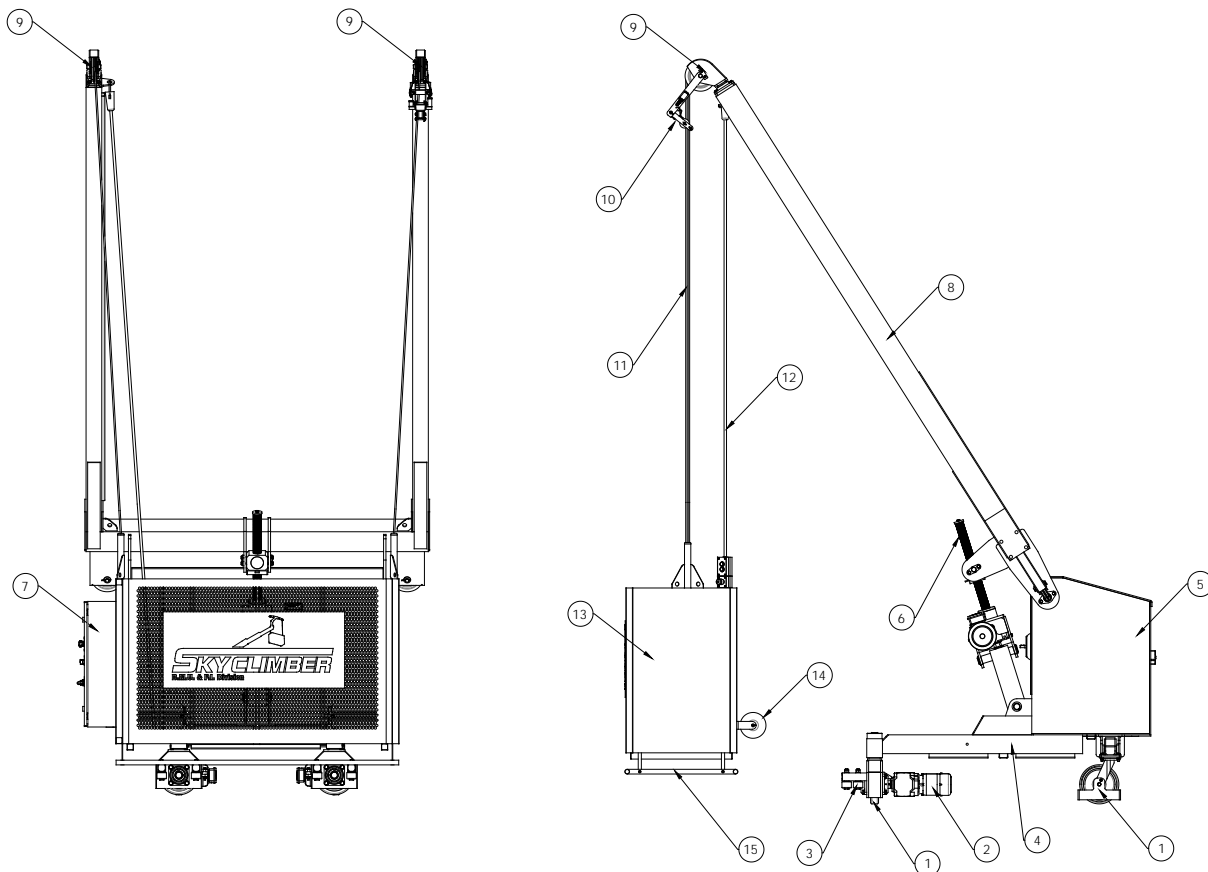

Fig. 3 - references
- Electrical control box panel (point 7 figure 3.)
- Pendant control (point 15 figure 3.)
- Control panel on cradle (point 16 figure 3.)